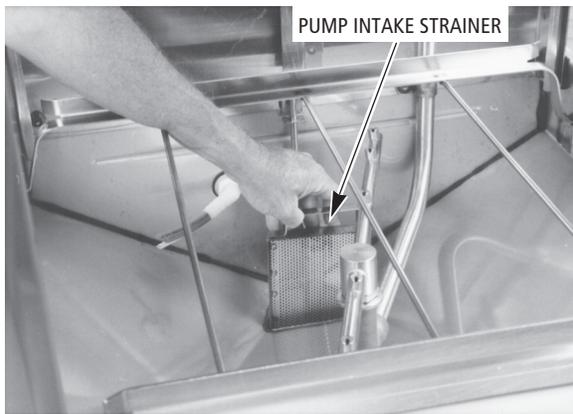
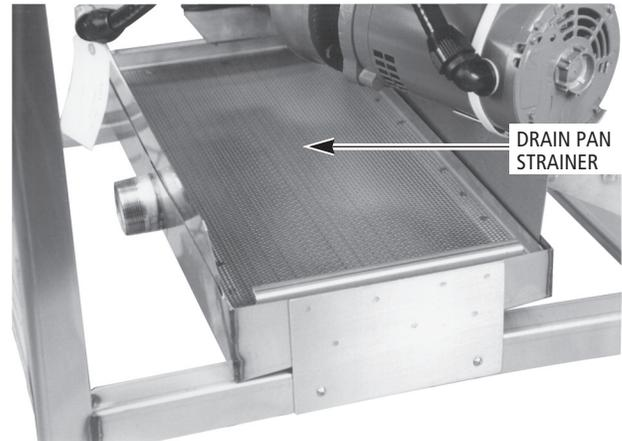
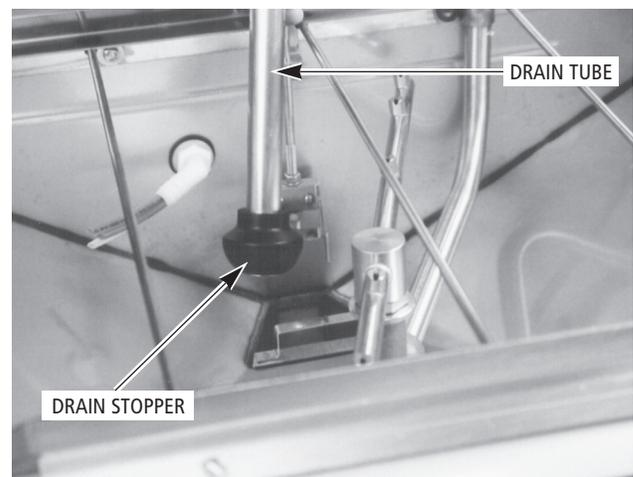

Figure 12
Figure 13
Figure 17
Check to make sure that the pump intake strainer (*Figure 12*), the drain pan strainer (*Figure 13*), and the drain tube (*Figure 17*) are in place and that both strainers are free of debris. The pump intake strainer must drop completely to the bottom of the sump. THE DRAIN AND STRAINERS MUST BE CLEAN AND FREE OF DEBRIS AT ALL TIMES.
Occasionally, check the drain pan strainer (*Figure 13*) and clean it as necessary to prevent it from becoming clogged (which could result in water splashing onto the floor). DO NOT remove the drain pan strainer during a wash cycle.
The machine may be drained by either pressing and holding the *DRAIN/FILL* switch on *DRAIN* until the machine is completely drained, or by opening the doors and removing the drain tube (the drain stopper is attached to the bottom of the drain tube) (*Figure 17*). When the machine is completely drained, replace the drain tube/drain stopper, close the doors and hold the *DRAIN/FILL* switch on *FILL* for approximately ten seconds.
3. Remove the pump intake strainer (*Figure 12*), the drain tube/drain stopper (*Figure 17*), and the drain pan strainer (*Figure 13*) and scrub them in a sink.